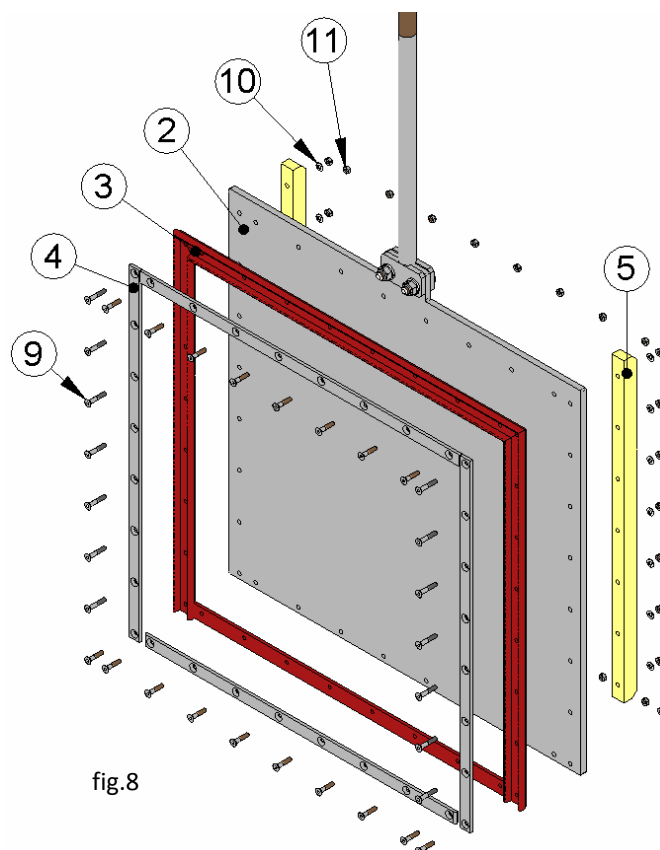

fig.8
**Note:** The numbers in brackets refer to fig. 8.